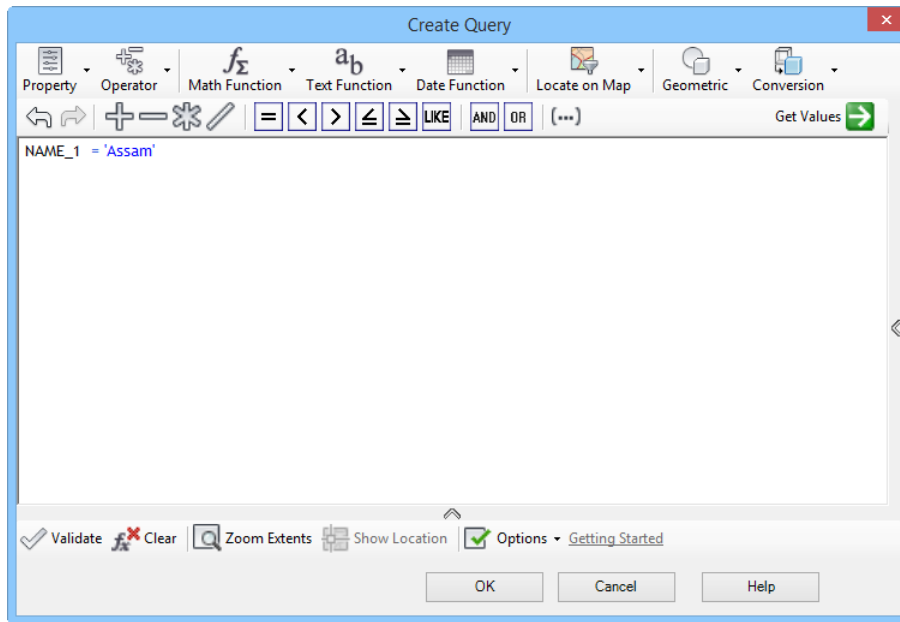

Figure 2-32 The *Create Query* window displaying the query
13. Enter **NAME_1 = 'Assam'** in the edit window, as shown in the Figure 2-32, and choose the **OK** button in the **Create Query** window; the query is executed and the filtered map objects are added to the drawing window. Next, close the **DATA CONNECT** wizard.